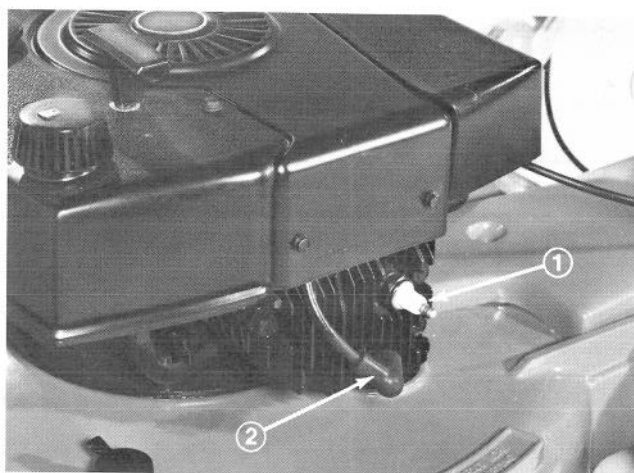

Figure 27
1. Remove spark plug (Fig. 27).